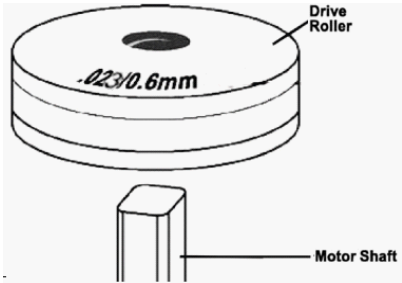

Figure 6. Drive Roller
4. Find the side of the drive roller that is stamped with the same wire diameter as that of the wire being installed (see Figure 6). Push the drive roller onto the drive roller shaft, with the side stamped with the desired wire diameter facing you.